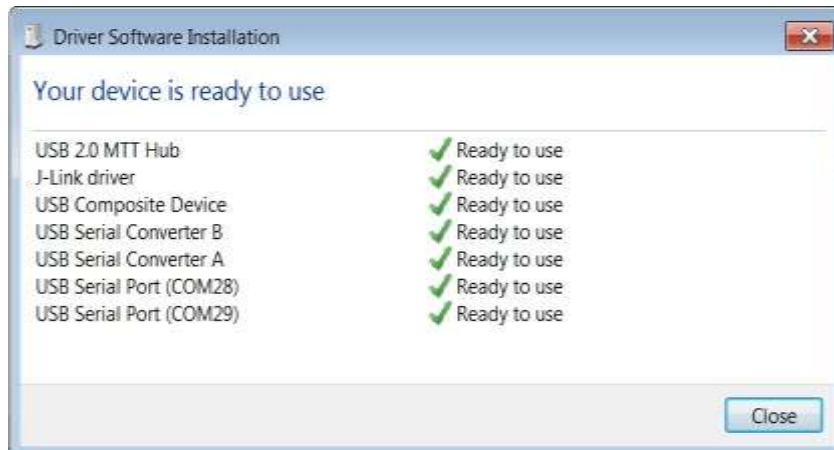

Figure 6: Windows Driver Installation
When the driver installation is complete, the system displays a Microsoft Windows similar to the one presented in **Figure 6**.
**Note:** The COM port numbers assigned to the ProDev Kit motherboard might be different to the ones shown in Figure 6.